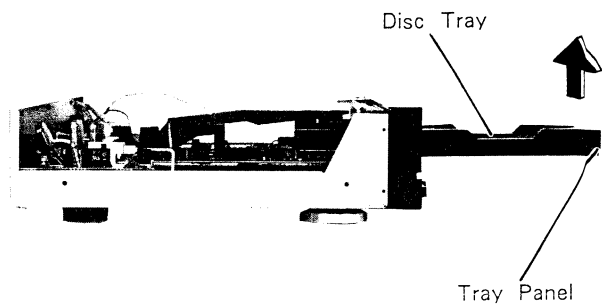

Figure 2
- (1) Open the disc tray.
- (2) Remove the tray panel in the arrow direction as shown in Figure 2.